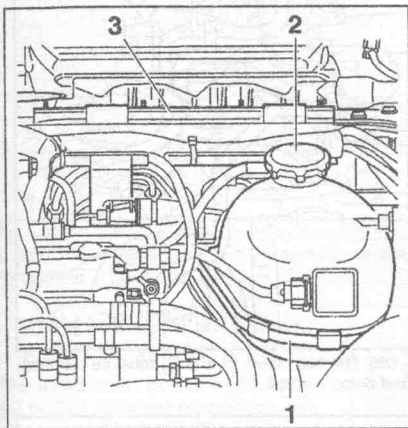

Fig. 1.84. — Expansion tank removal.
- Take off the clamp band (1) in Fig. 1.84, disconnect the hoses from the coolant expansion tank (again a pair of pliers is required) and remove the expansion tank and place it to one side.
- Separate the wiring harness from the harness support (3) in Fig. 1.84 and remove the harness support.
- Refit the wiring harness support (3) in Fig. 1.84.
- Refit the expansion tank (2) in Fig. 1.84.